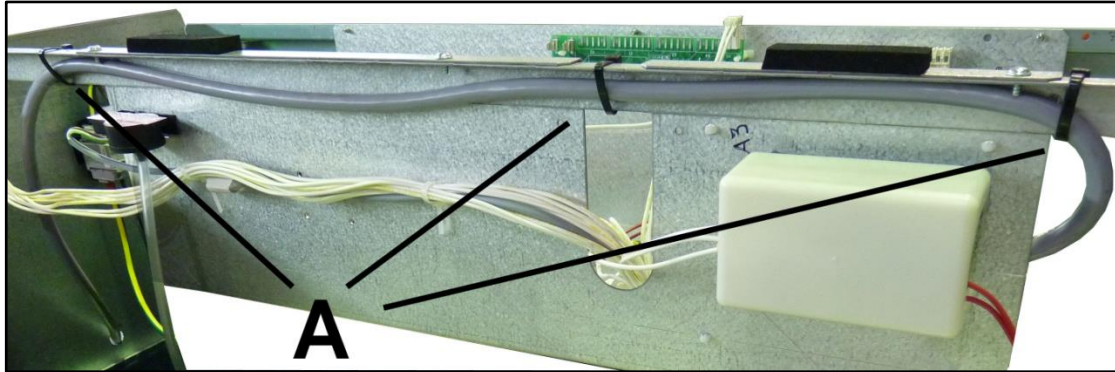

Fig. 3.12
- In models CACSHD-60/70/80, secure the conductor using the cable ties on the outside of the electrical cabinet, as shown in Fig. 3.12/A.